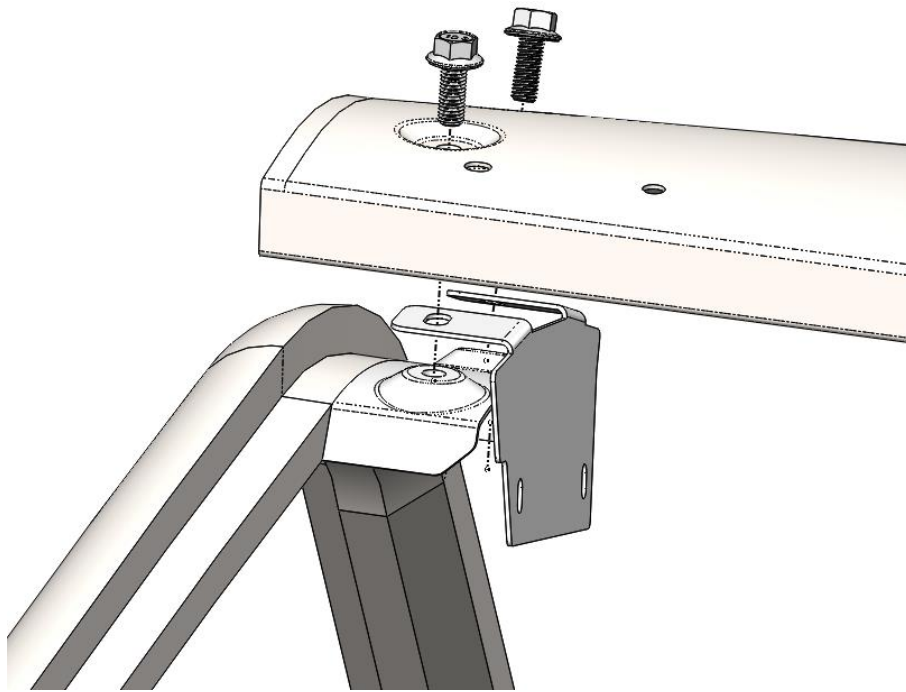

Figure 5: Mounting locations of *Audio Mini* brackets.
2. Align the brackets between the visor and the welded frame mount. Replace the bolts, and loosely tighten the nuts to allow for adjustment of the *Audio Mini* placement. Verify correct orientation of the mounting brackets. See Figure 5. **Note: Reinstall your roof after this step, as you will not be able to access any bolts in the visor once your *Audio Mini* is installed.**